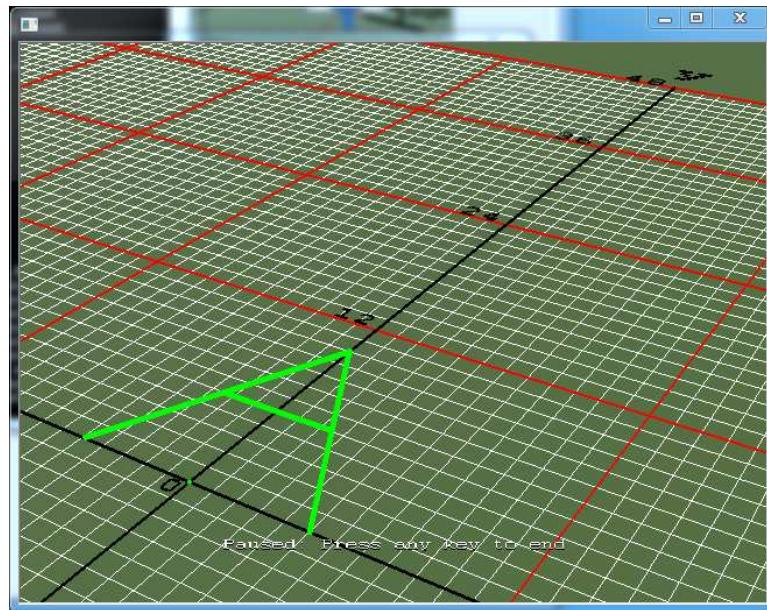

Figure B.17: Moving a virtual Linkbot-I to trace a letter 'A'.
1. Write a program `traceon3.ch` to trace the letter 'A' in RoboSim as shown in Figure B.17. The horizontal line for the letter 'A' can be drawn from the point  $(-2.5, 5)$  to the point  $(2.5, 5)$ .